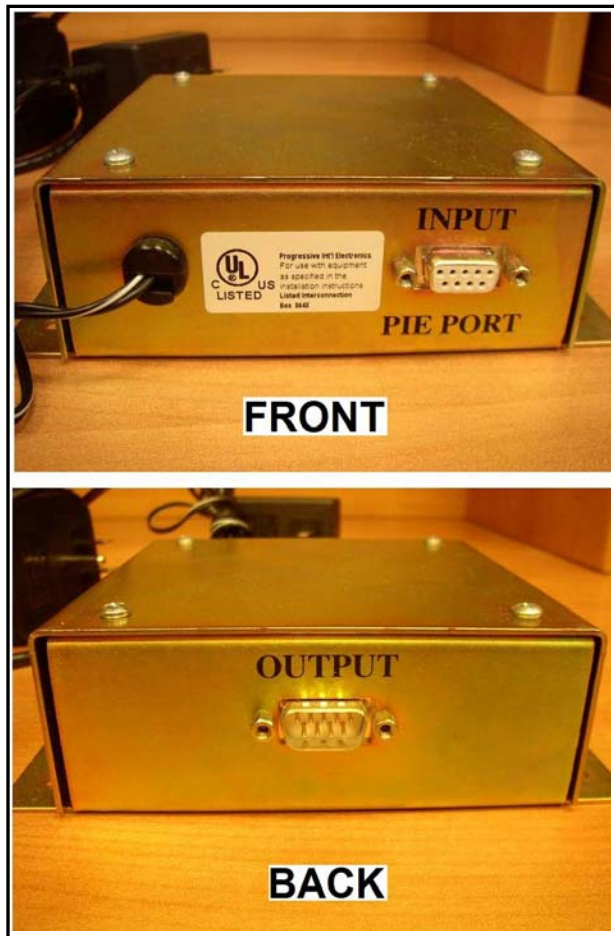

Fig. H-5. PIE Configurator
7. Configurator (Fig H-5). Receives inputs from Controller, and passes off to D-Box. Requires 115VAC outlet. If a D-Box is purchased from PIE, the Configurator and D-Box will be combined into one box,
Depending upon the application, there may be one or two cable connections from the Configurator to the D-Box(es). Reference Figure H-5, connect the Configurator to D-Box cable(s) from the Configurator OUTPUT receptacle to the D-Box(es).